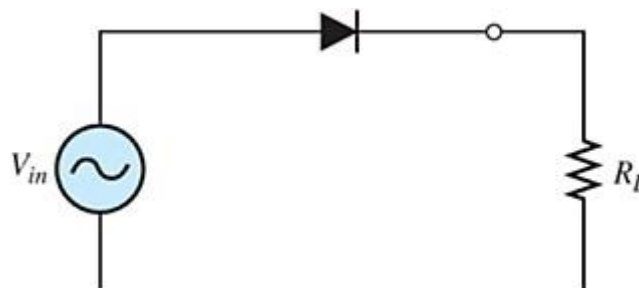

Figure.2.1: Half-wave rectifier circuit
In Fig.2.1, a diode is connected to an AC source that provides the input voltage V_{in} to a load resistor R_L , forming a half-wave rectifier.
1. Connect the circuit as shown in Fig.2.1 using an AC power supply (Function generator) or standard transformer, a diode, a $1\text{k}\Omega$ resistor (RL)
1. Connect the circuit as shown in Fig.2.1 using an AC power supply (Function generator) or standard transformer, a diode, a $1k\Omega$ resistor (RL)